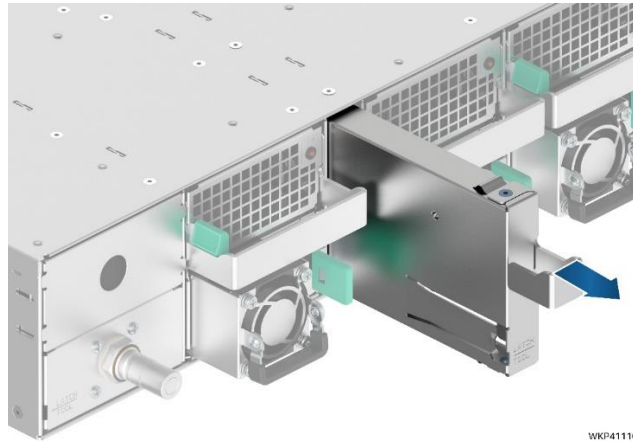

Figure 4. Removing the EMP bay filler blank
1. If present, remove the EMP bay filler blank from the back of the server chassis by pulling it out from the chassis, as shown in Figure 4.